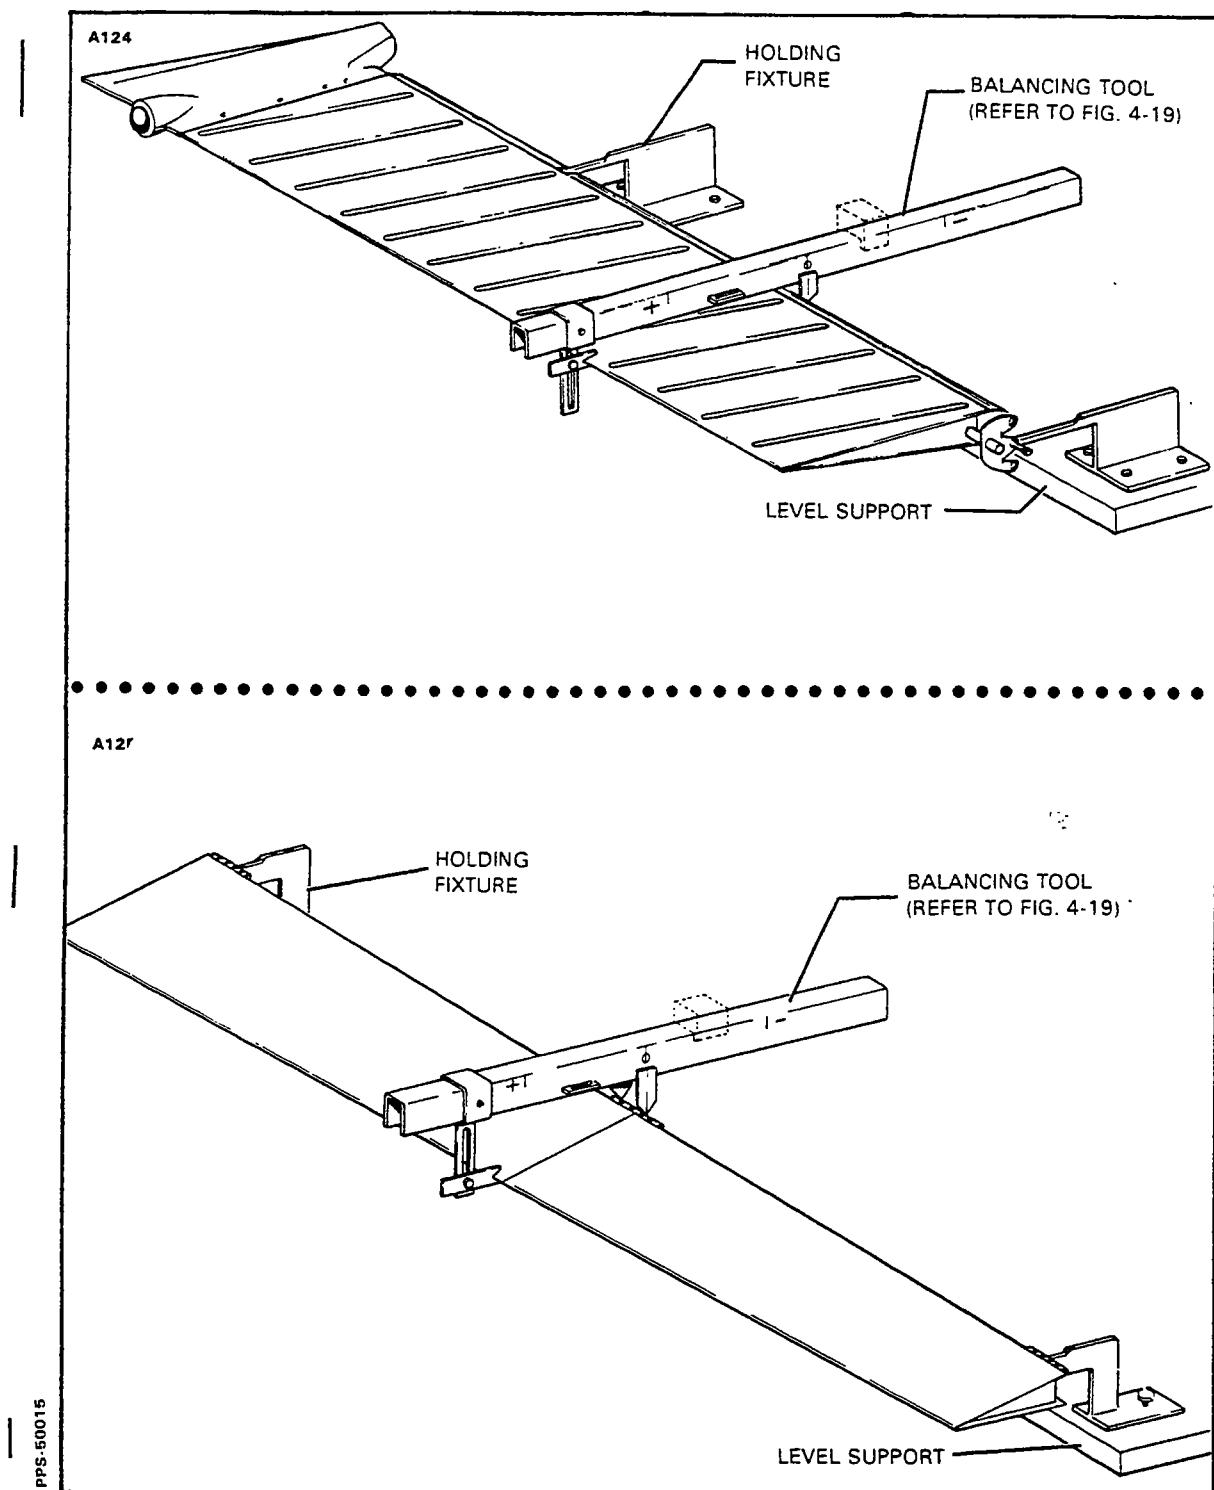

Figure 4-20. Aileron and Rudder Balance Configuration
4-73. BALANCING AILERONS. (Refer to Figure 4-20.) Position the aileron on the balancing fixture in a draft free area and in a manner which allows unrestricted movement of the aileron. Place the tool on the aileron, avoid rivets and keep the beam perpendicular to the hinge centerline. Calibrate the tool as described in Paragraph 4-72. Read the scale when the bubble level has been centered by adjustment of the movable weight and determine the static balance. If the static balance is not within the limits specified in Table IV-II, proceed as follows:
- 4-74. BALANCING RUDDER. (Refer to Figure 4-20.) To balance the rudder, the assembly must be complete including the tip assembly with all attaching screws and the position light wiring. Place the complete assembly horizontally on knife edge supports in a draft-free area in a manner that allows unrestricted movement. Place the tool on the rudder with the beam perpendicular to the hinge centerline. Calibrate the tool as described in Paragraph 4-72. Read the scale when the bubble level has been centered by adjustment of the movable weight and determine the static balance limit. If the static balance is not within the limits given in Table IV-II, proceed as follows: